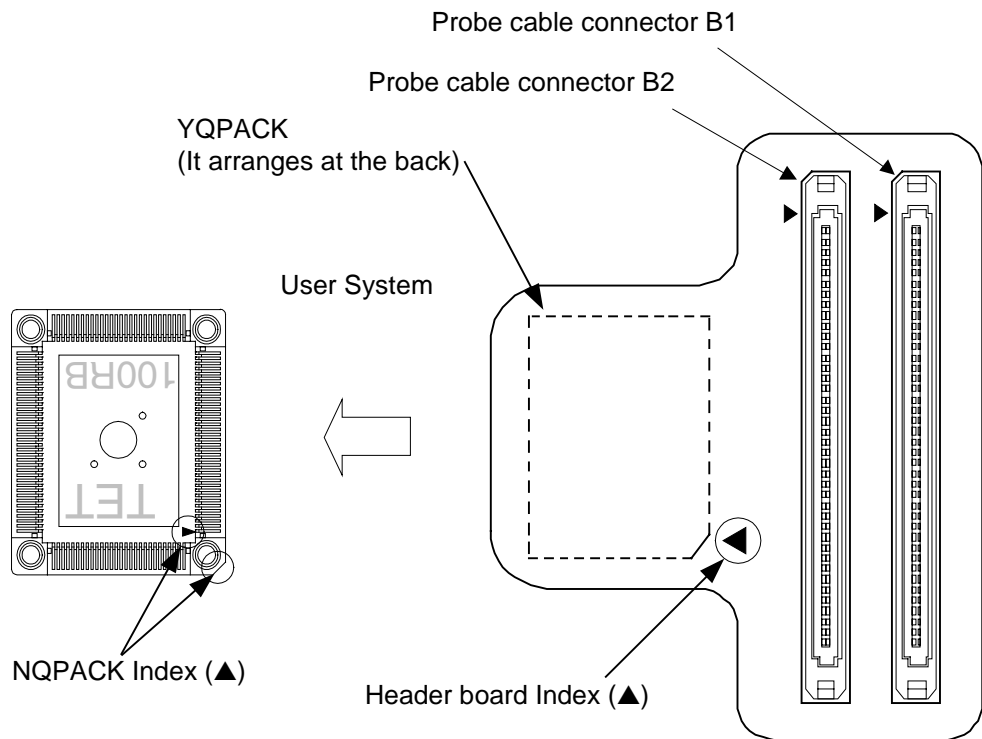

Figure 3 Index Position
1. To connect the header board to the user system, match the index mark (▲) on the NQPACK-mounted on the user system with the index mark (▲) on the header board and then insert it (See Figure 3). The pin of YQPACK is thin and easy to bent. Insert NQPACK after confirm that the pin of YQPACK is not bent.